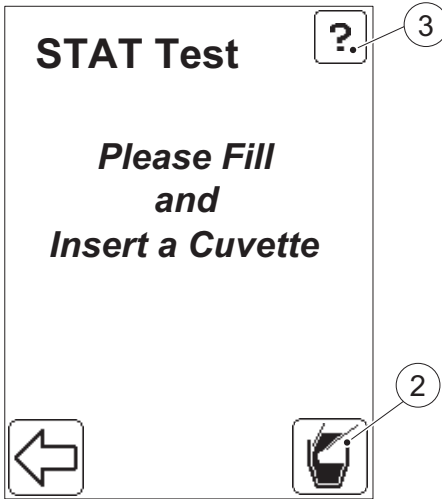

FIGURE 5-3
For a diluted sample follow *FIGURE 5-3*, otherwise continue with step c).
g) Confirm with Yes or No. *FIGURE 5-3* will then be displayed again.